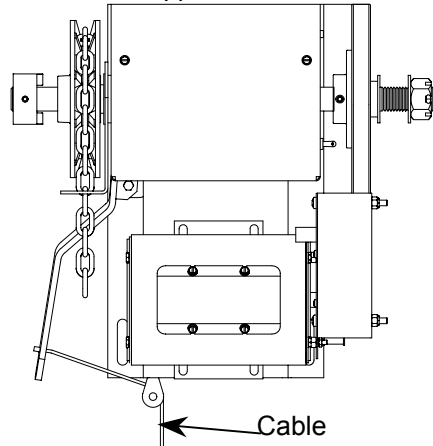
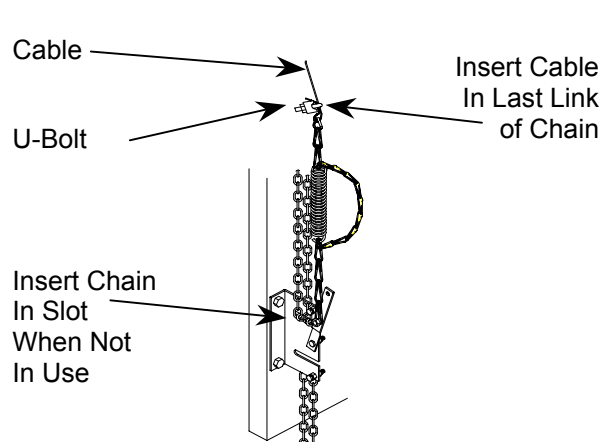

Figure 7 Installing cable on MSJ operator
Figure 8 Floor disconnect for MSJ operator
- Run hand chain through the pocket wheel and chain guide outside the frame, allow both ends to hang down toward the ground and cut hand chain, if necessary, so that both ends are approximately 2 feet (0.6 m) from floor. Connect both ends of hand chain. Attach the cable to the chain hoist engaging lever (Figure 7) then pass it through the small pulley at the bottom of the frame. Allow the cable to hang down toward the ground and cut the cable, if necessary, so that cable end is approximately 4 feet (1.2m) from the floor. Connect the cable end to the disconnect lever and secure it with the U-bolt (Figure 8). Mount the floor level disconnect lever to the wall so as to allow the cable to be slightly loose when the lever is in the engaged position (upwards).
NOTE: Floor level disconnect may serve as a chain keeper: Pull downward on disconnect lever and insert chain in upper slot as shown in Figure 8 below.